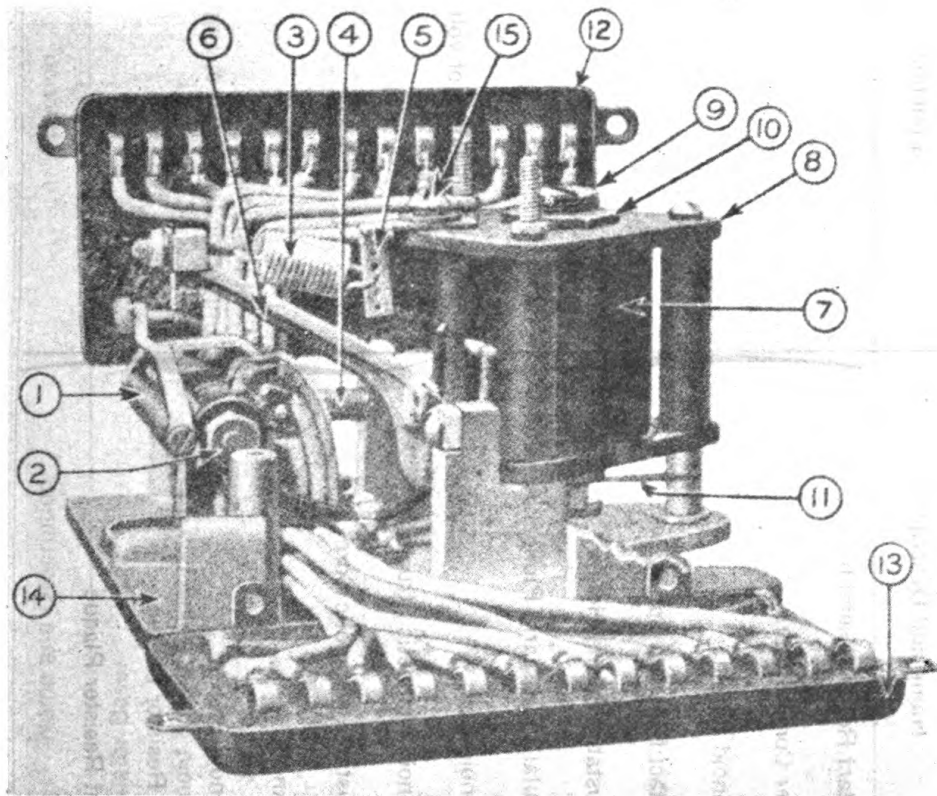

FIGURE 29—ALTERNATOR VOLTAGE REGULATOR.
n. Alternator Voltage Regulator (Figure 29).